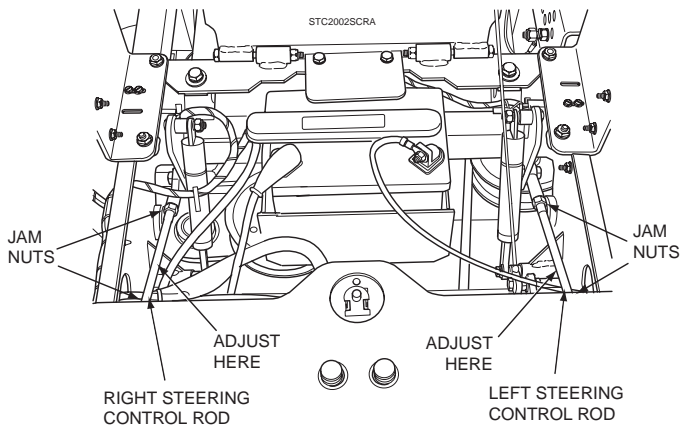

Figure 6-3. Steering Control Rod Adjustment
4. Adjust the RH wheel by loosening the jam nuts on the steering control rod and turning the rod until the drive wheel turns in the forward direction. Turn the rod back until the drive wheel stops moving. Turn the rod an additional 1/2 turn. See Figure 6-3.
5. Tighten the jam nuts and repeat for the LH wheel. See Figure 6-3.
A. Stop the machine and place the steering control levers in the neutral position. Loosen the lock nuts securing the ball joints at each end of the LH steering control rod. Rotate the control rod to lengthen the rod and tighten the lock nuts. This will cause the control rod to stroke the LH pump less, slowing down the LH wheel. See Figure 6-3.
A. Stop the machine and place the steering control levers in the neutral position. Loosen the lock nuts securing the ball joints at each end of the RH steering control rod. Rotate the control rod to lengthen the rod and tighten the lock nuts. This will cause the control rod to stroke the RH pump less, slowing down the RH wheel. See Figure 6-3.
When the clutch is disengaged, the air gap between the armature and rotor must be adjusted to fifteen thousandths of an inch, 0.015, for proper operation. The airgap adjustment is made at three bolts on the clutch. There are three inspection windows, one next to each adjusting bolt. See Figure 6-3.